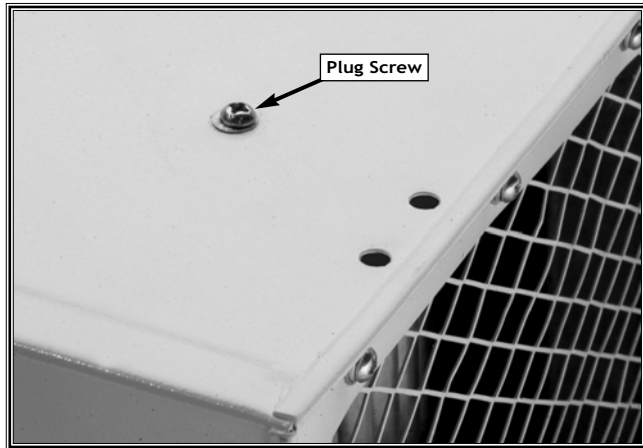

Figure 7. Plug screw.
2. Remove the plug screw. Retain the screws because if you remove the eye bolts for the flush mounting configuration, you must reinstall these screws to seal the air cleaner unit. See Figure 7.